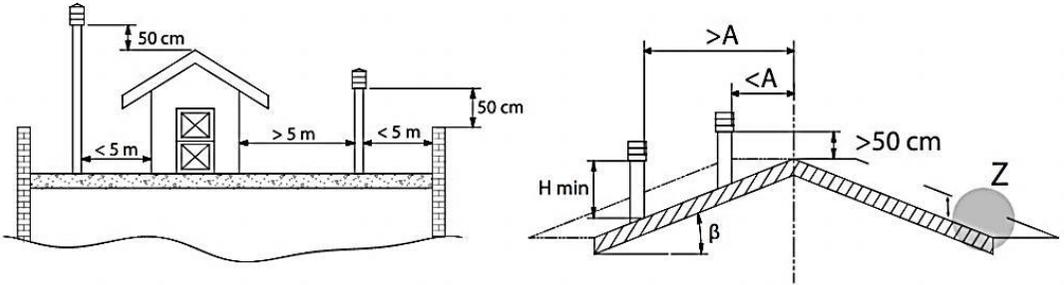

Figure 2
- **installed to enable proper dispersion and dilution of combustion products outside the reflux zone (backflow)** because the counter pressure occurs here. Therefore, it is necessary to adhere to limitations listed in *Figure 2*,